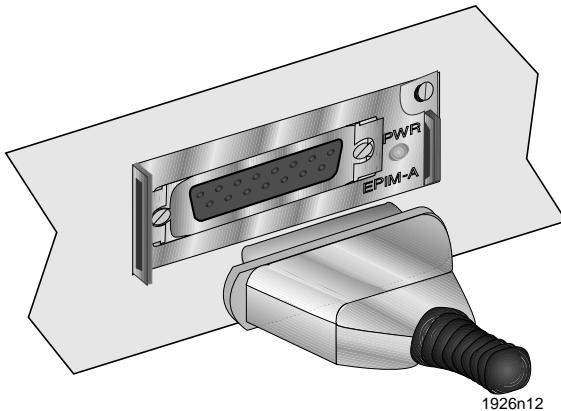

Figure 3-9 AUI Connector Insertion
1. Align the DB15 connector of the AUI cable with the AUI port of the EPIM as shown in Figure 3-9. The port will only connect if it is properly aligned.